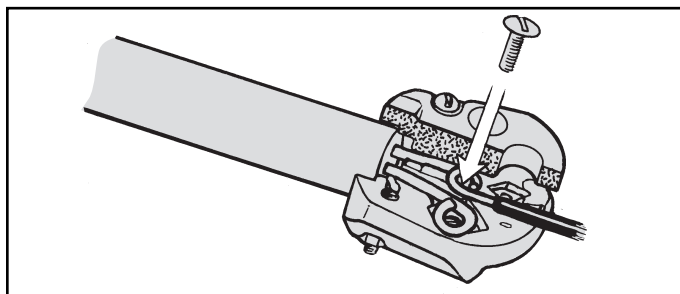

Figure 5 — Tightening Terminal Screws
5. Assemble terminal, screw and wire as shown in Figure 5.